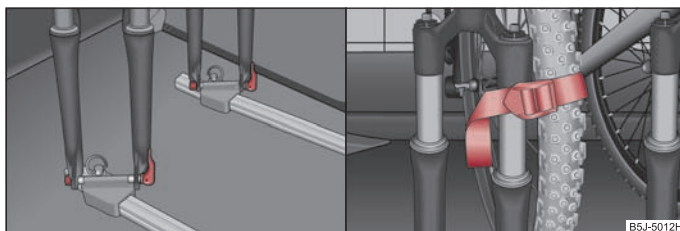

Fig. 70 Put in the bicycle / fastening the front wheel
- Fit the bicycle fork onto the fixing axle and tighten with the quick tension jack ⇒ fig. 70.
- It is best to push the removed front wheel between the crank of the left pedal and the bicycle frame, attach it with a strap to the front fork ⇒ fig. 70, and/or to a fixing point.